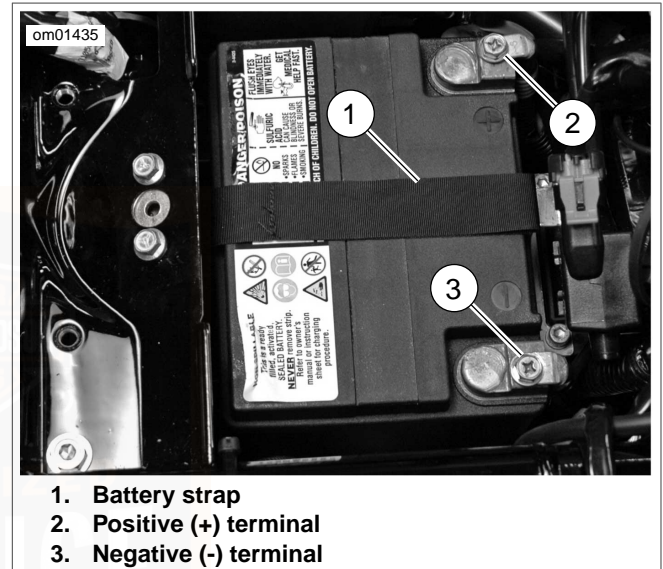

Figure 68. Battery Compartment (FLHXXX shown)
5. See Figure 68. Remove battery negative cable (black) from battery negative (-) terminal.
1. See Figure 68. Place the fully charged battery into the compartment with terminals toward the front of the vehicle. Lay battery strap over top of battery.